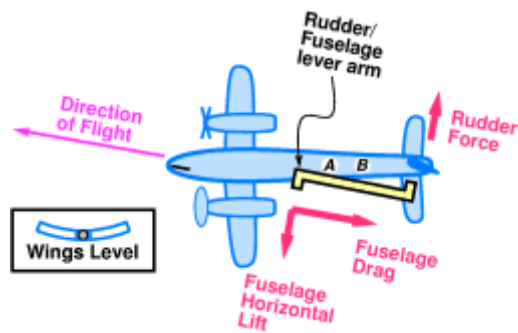

Figure 17.5: Engine Out — Wings-Level Nonturning Slip
What is perhaps more surprising is that even in case (ii), if you keep the wings level the plane will make a CM-turn toward the dead engine (toward the right in this case). It will not turn as rapidly as in case (i), but it will turn nonetheless. The reason is that the rudder force, in addition to creating a torque, is creating an unbalanced force. This force is changing the direction of motion of the center of mass. A possible (but non-optimal) way to stop this turn would be to apply even more pressure on the left rudder pedal, which would create a wings-level non-turning slip, as will be discussed below in conjunction with figure 17.5. For now, though, let's consider the correct strategy, which is to keep the slip string centered and apply a *bank* (to the left, in this case) to stop the turn. This is shown in figure 17.4. This uses a leftward component of lift³ paired with the rightward rudder force. Once again we have a pair of forces with a lever arm between them, i.e. a pure torque. This lift/rudder pair cancels the thrust/drag pair discussed above.
To maintain zero slip, you will need to bank the plane very slightly toward the working engine. The mnemonic is: *raise the dead*. This also implies that the inclinometer ball will be slightly displaced toward the working engine. This correct procedure (figure 17.4) requires slightly *more* aileron and slightly *less* rudder than you would need for wings-level, ball-centered, non-turning, uncoordinated flight (figure 17.5).
2. Suppose you push a little harder on the rudder pedal, establishing a slip toward the dead engine. The ball is centered, the wings are level, and the rate of turn is zero. (Any two of those things implies the third, regardless of engine status.) The forces are in balance because there is enough uncoordinated airflow over the fuselage to create a sideways force that balances the rudder force. The slip string is offset to the left, indicating that you are applying too much left rudder. In this situation, as shown in figure 17.5, you are using the fuselage as an airfoil. The problem is that the fuselage has a really poor lift-to-drag ratio. The sideways fuselage lift force is accompanied by a huge drag force, which steals energy from you. It would be much better to use the wings, as previously discussed in conjunction with figure 17.4.
1. CM location has no effect whatsoever if you use the unwise wings-level technique depicted in figure 17.5.